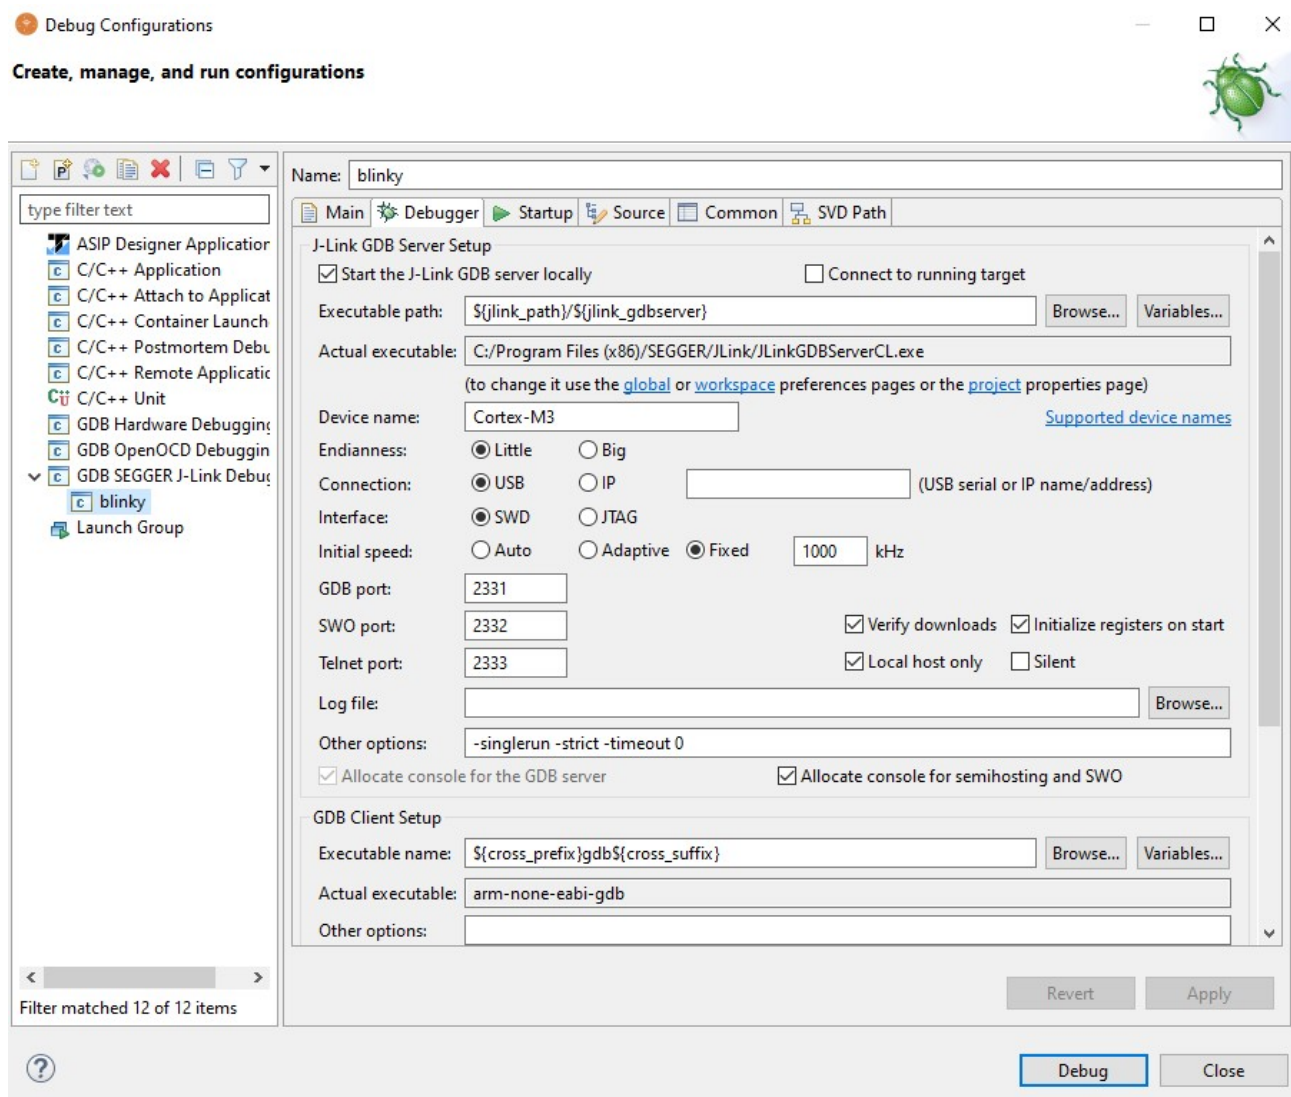

Figure 23. Device Name Window
- b. In the **Debugger** tab view, enter **Cortex-M3** in the Device Name window, and make certain that the **Other Options** field does not include the `-nogui` option, as shown in figure "Device Name Window" (Figure 23).